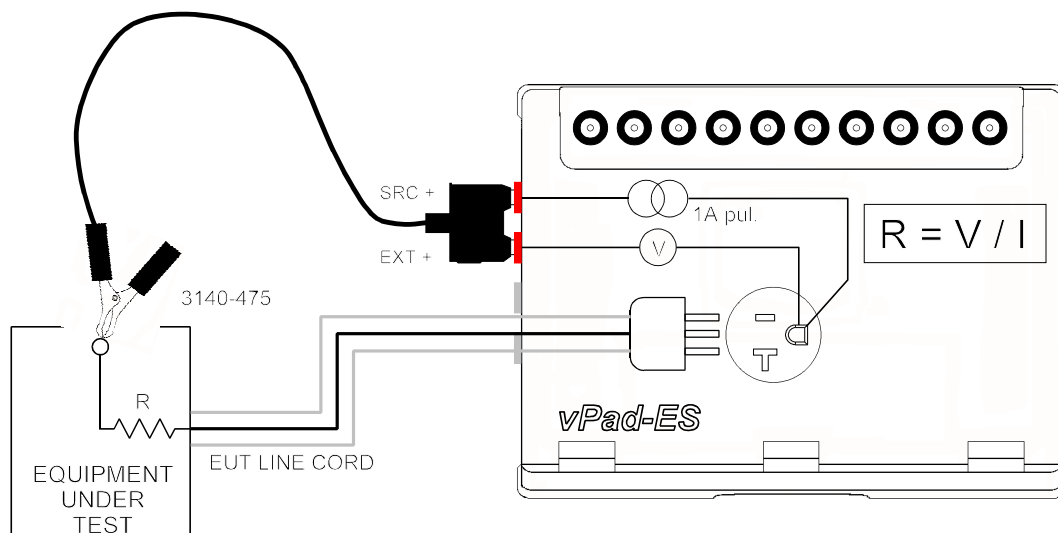
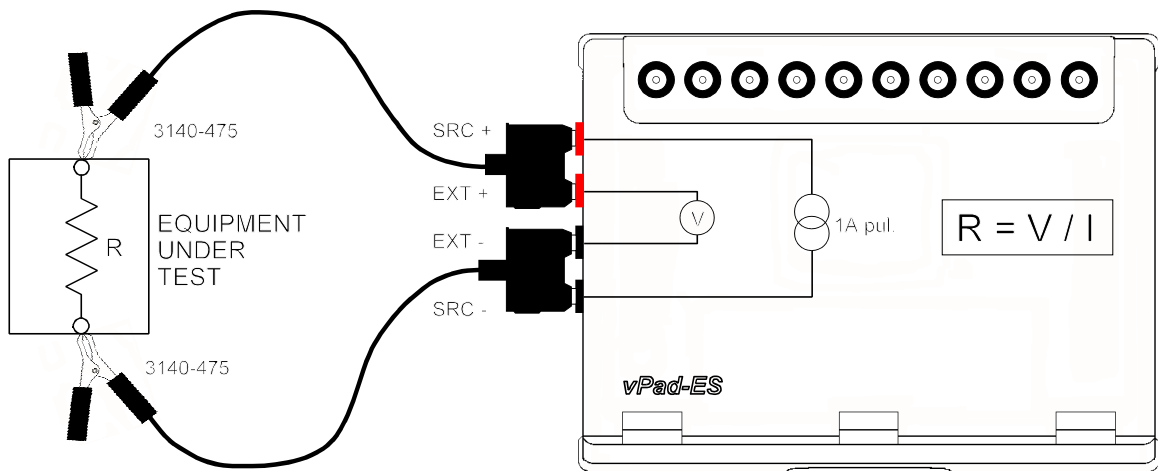

Figure 33 - Line cord resistance test.
Figure 34 - External (point-to-point) resistance test.
Connect the EUT line cord to the test receptacle. Plug the vPad Kelvin Cable into **SRC+** and **EXT+** jacks on the left panel of the Analyzer Base Unit, then connect the Kelvin Cable to a grounded terminal or conductive point on the EUT chassis (*Figure 33*).
This test requires two vPad Kelvin Cables, connected as shown in **Figure 34**. Resistance up to 2 Ω may be measured. As with the line cord test, high resistance or open-circuit conditions are represented by **X.XX** on the display; inspect attachment of the Kelvin Cables in this case.
Referring to *Figure 33* and *Figure 34*, vPad-ES uses a "four-wire method" when measuring line cord or point-to-point resistance. Not apparent from the schematics are two separate insulated conductors in the Kelvin Cable, one conductor conveying a current (I) to the resistance under test (R), and the other conductor conveying voltage (V) caused by current (I) to a voltmeter. For known or measured current (I) and measured voltage (V), resistance can then be calculated as $R = V/I$. The four-wire method is preferred for measurement of small resistance values, since error caused by internal resistance of the test leads is eliminated.